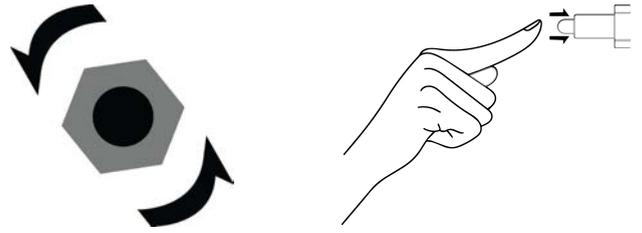

Fig 2.
- Once the cabinet has cooled down, turn the black or red knob anti-clockwise (Fig 2)